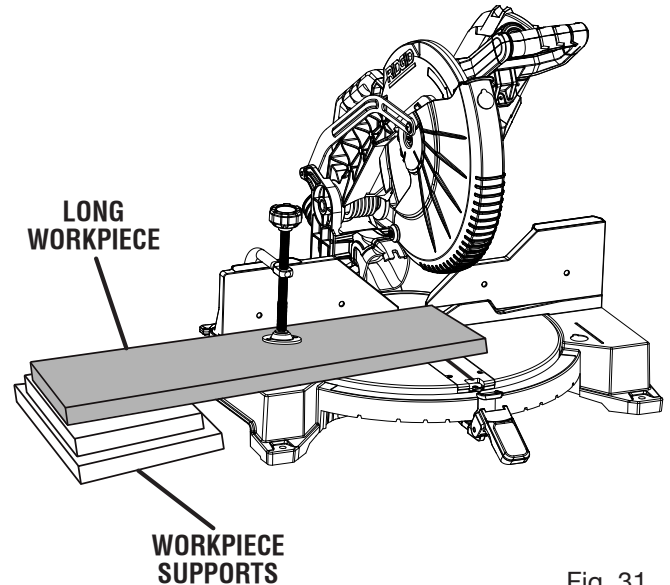

Fig. 31
- When cutting long pieces of lumber or molding, support the opposite end of the stock with a roller stand or with a work surface level with the saw table. See Figure 31.
See Figure 31.